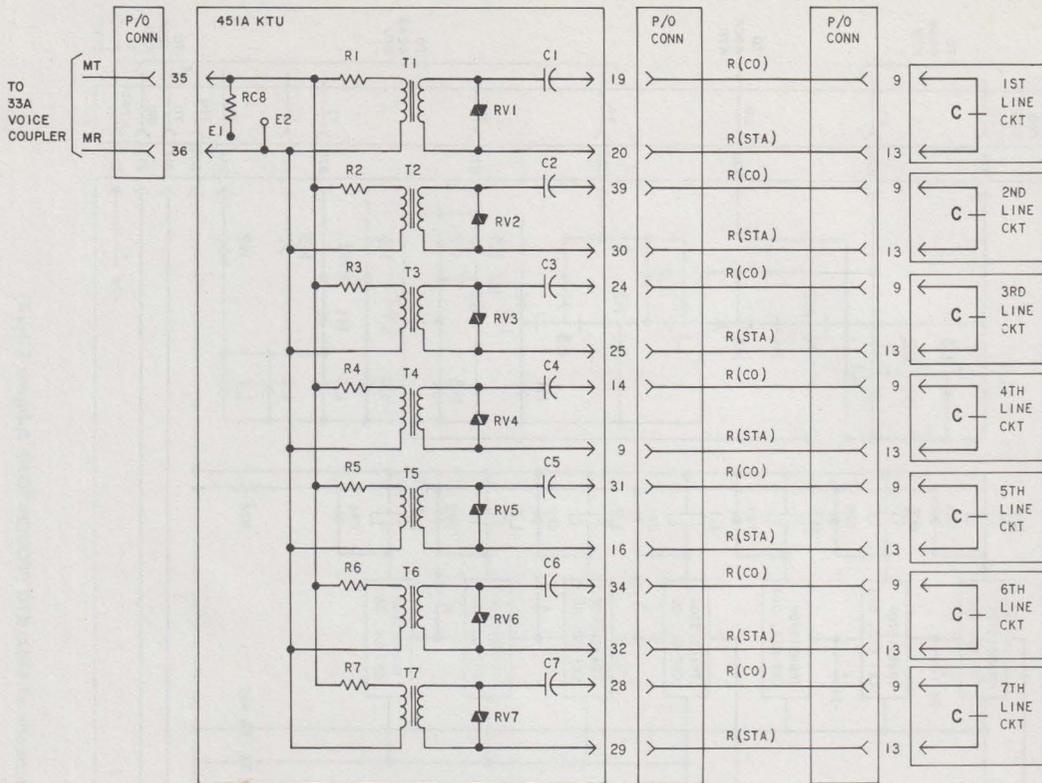

Fig. 16—Condensed Functional Schematic of 451A KTU (Music-On-Hold Circuit)
2.20 The 451A KTU (Fig. 16) is a 4-inch unit that is used with an externally mounted 33A voice coupler to connect a customer-provided source of music to a maximum of seven CO/PBX lines placed on hold.